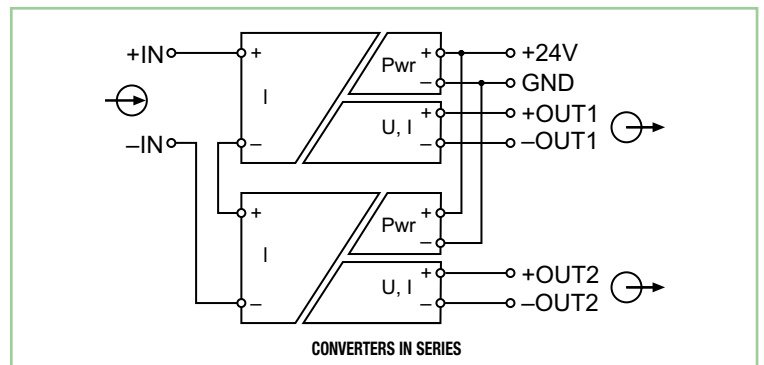

fig. 6
- In case of current signals, the converter input will be connected in series (fig. 6)